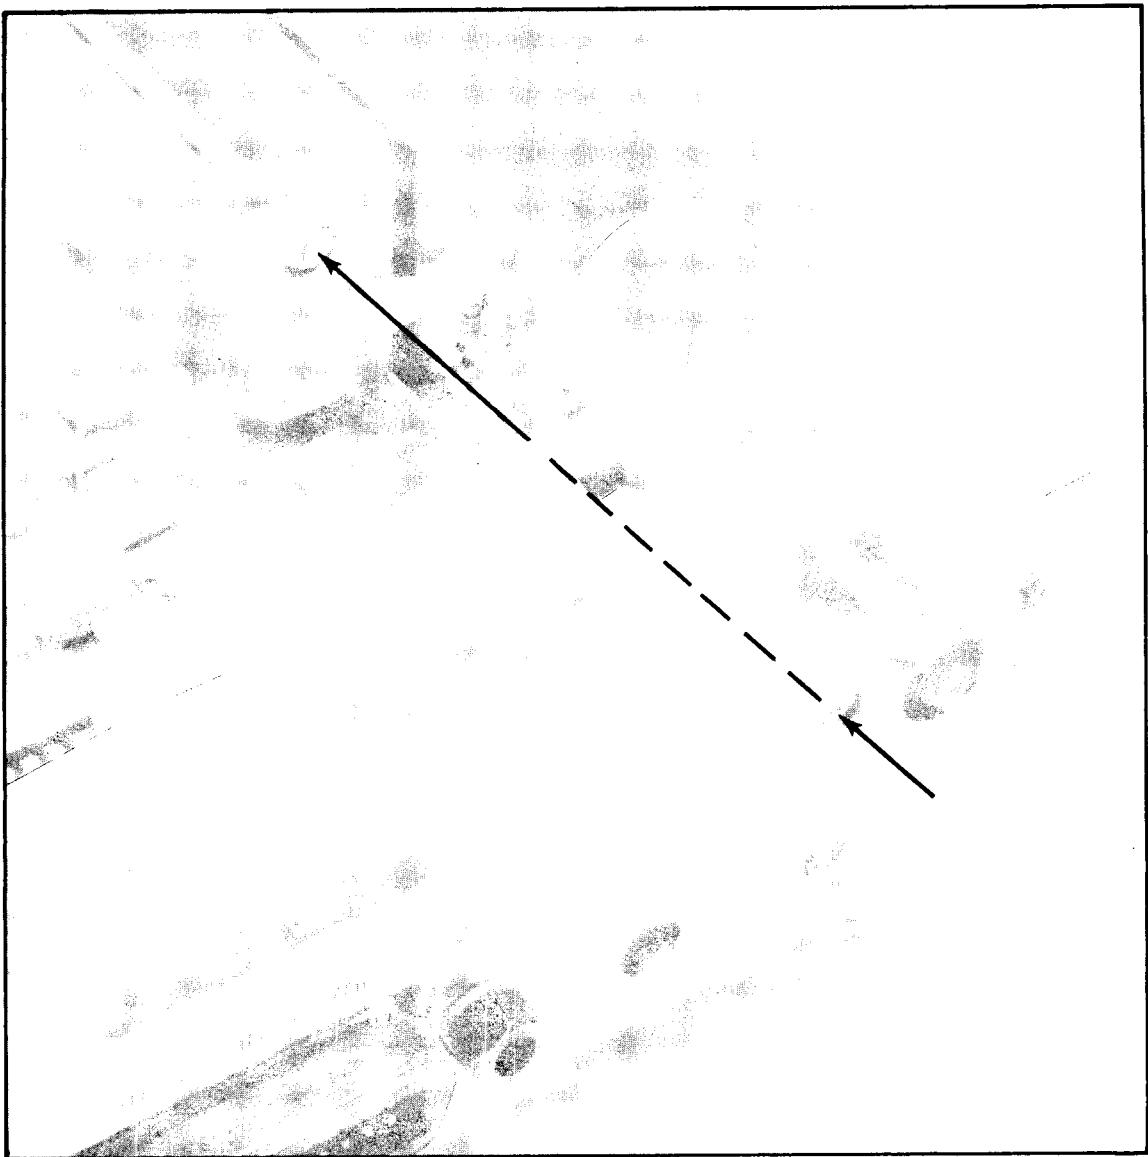

Figure 5-6. TCXO Option 001 Adjustment Location
- Adjust the TCXO frequency for minimum sideways movement of the 10 MHz signal with ADJ on the TCXO. See *Figure 5-6*.